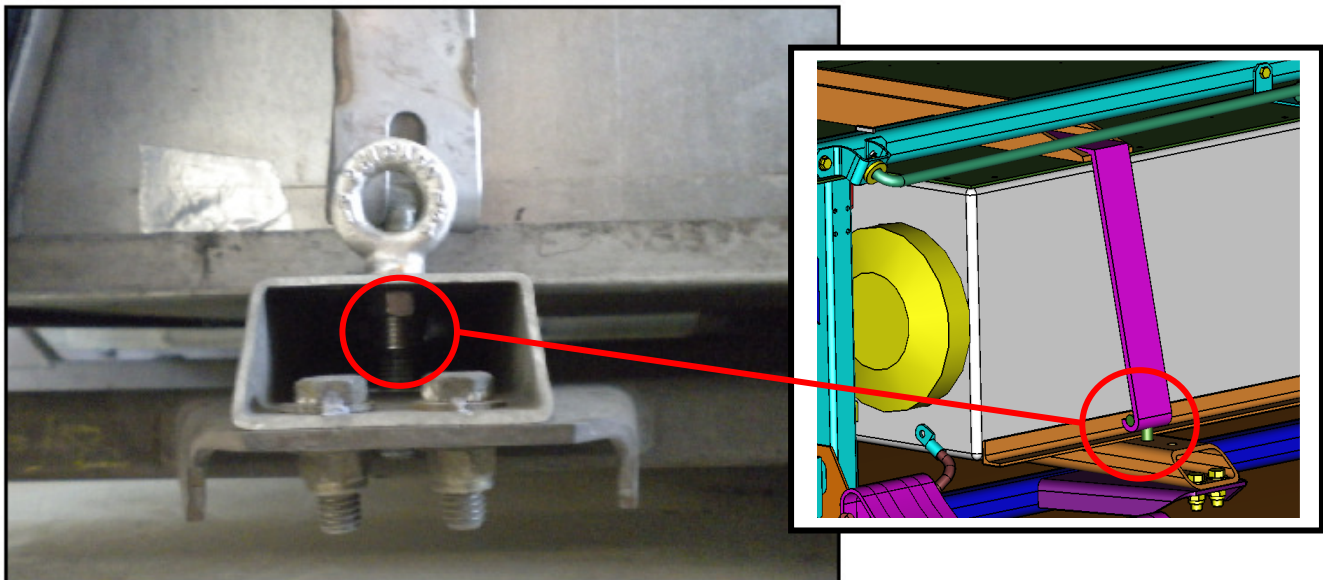

Fig 4 – Legacy UCAP Strapping
- d. Remove the nut holding the strap to the base (one side only) of the bus. Remove strap from base and move out of the way to gain access to the UCAP lid. See Fig 4